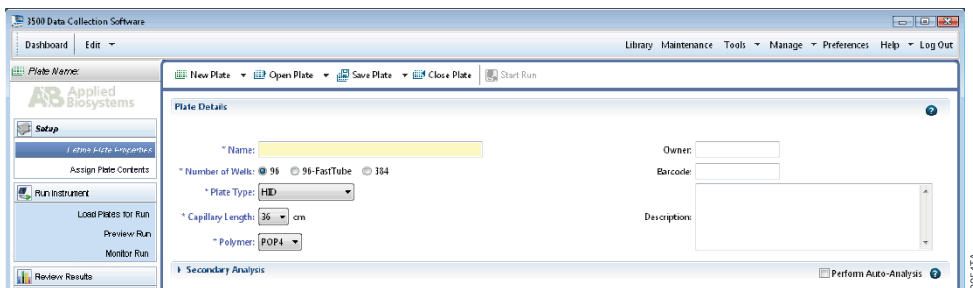

Figure 8. Defining plate properties.
4. Assign a descriptive plate name. Select the plate type **HID** from the drop-down menu (Figure 8).